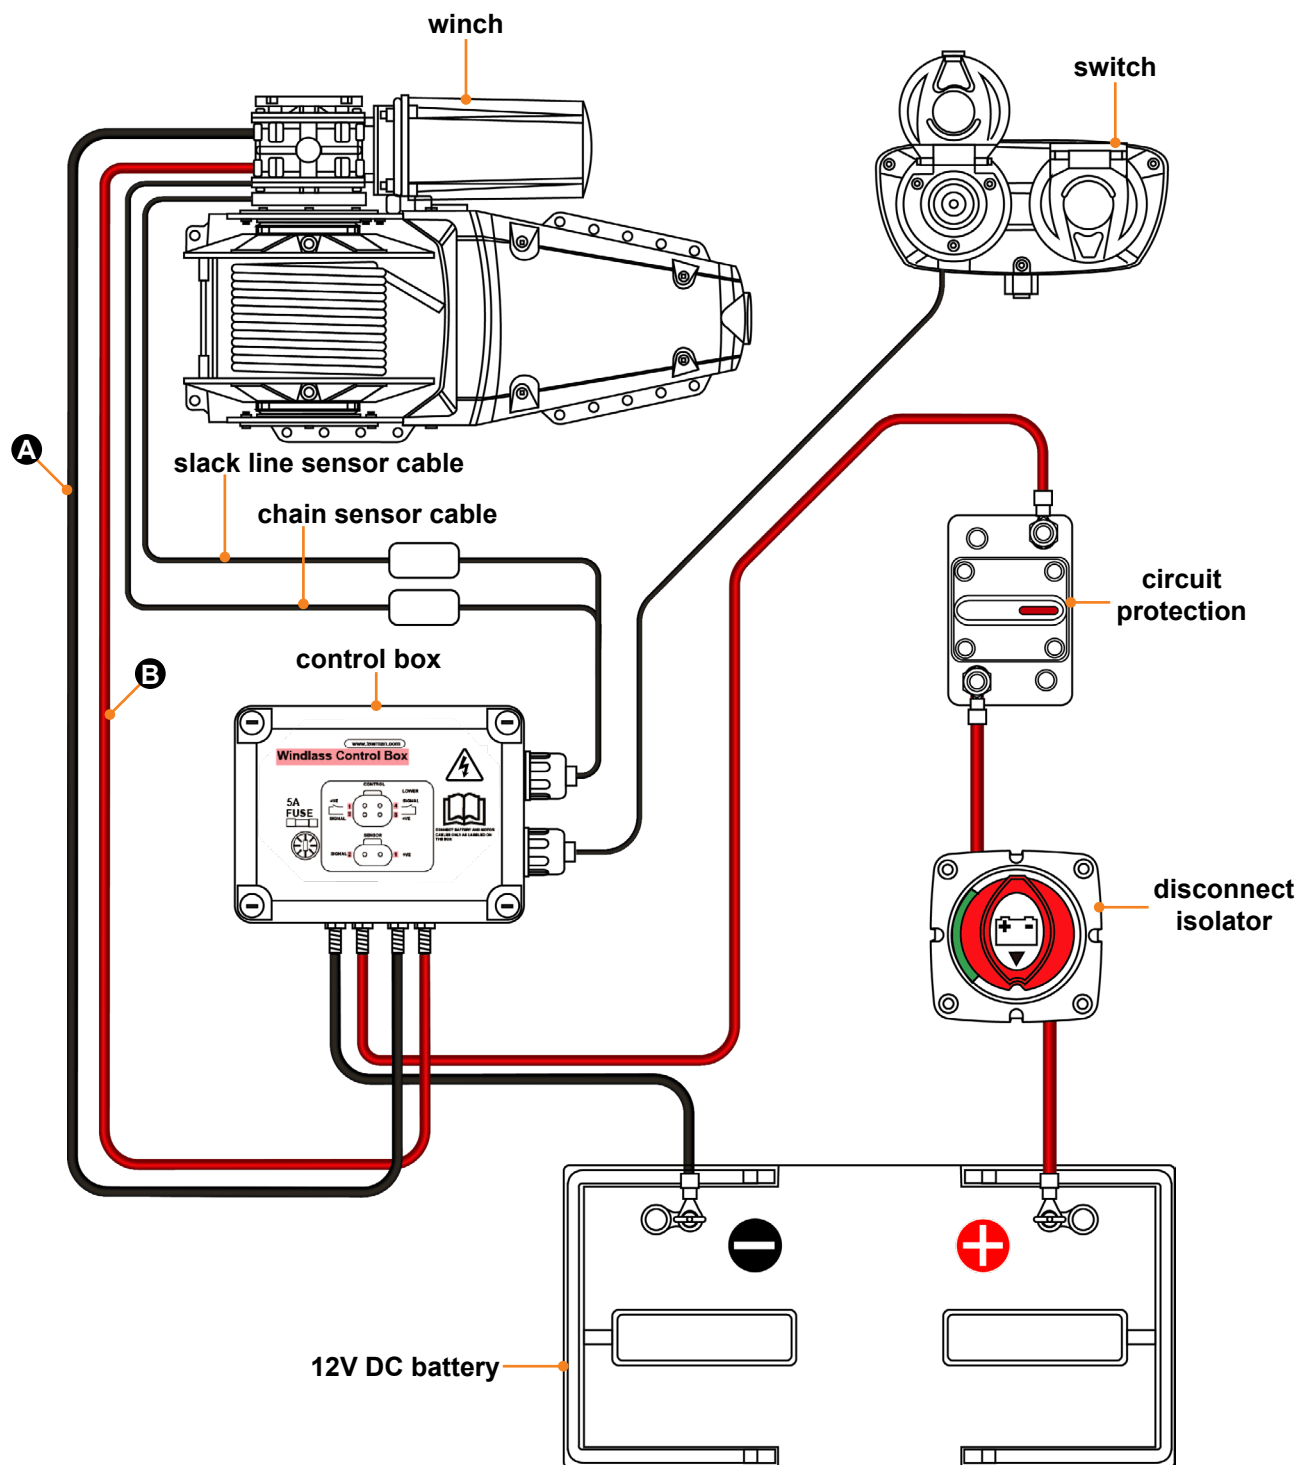

Fig.17
8. Wire the switch to the controller using the included 5 m (16') harness. Refer to Wiring Diagram (Fig.17).
The controller and foot switch **MUST** be fully installed and wired before installing an anchor. If necessary, refer to the Wiring Diagram (Fig.17).
7. Turn boat power and disconnect isolator (Fig.17) off before approaching the anchor and chain.
The installation requires a customer-supplied power disconnect isolator switch (Fig.17) between the power source (battery) and the provided circuit protection. The isolator switch should be appropriately sized to safely handle both the current draw at maximum pull and the momentary current draw in a stall condition.
Cable connecting the winch control box to the power supply must be customer supplied. Note the total cable length needed [(Fig.17A) plus (Fig.17B) in Wiring Diagram (Fig.17)] prior to choosing cable and refer to the Appropriate Cable Gauge/Size by Cable Length table to determine the gauge of wire needed. Longer runs will require cable with a smaller gauge.